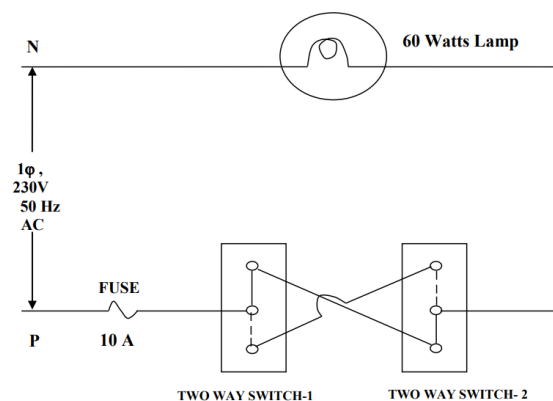

Figure 9.1 Circuit diagram-staircase wiring
9.1 Preparation of wiring for a stair case arrangement using a two-way switch as shown in Figure 9.1